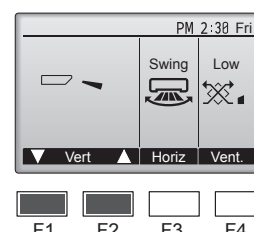

Fig. 7-4
- (2) Press the [SELECT] button to display the Vane operation screen, and then press the [F1] and [F2] buttons to check the auto vane. (Fig. 7-4)